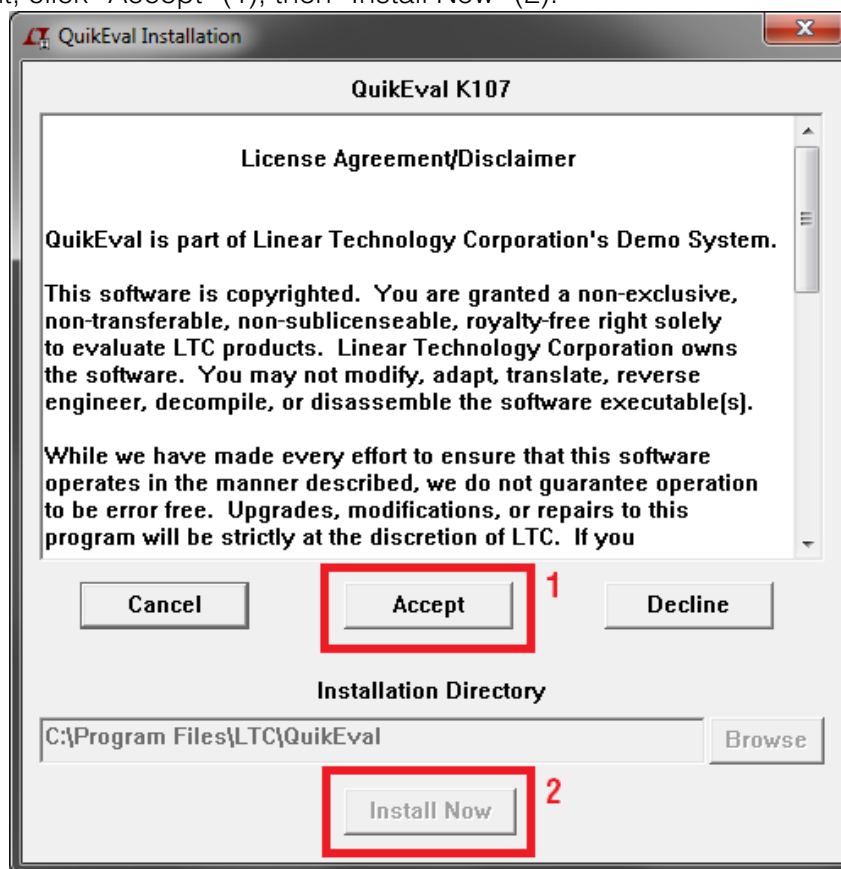

Figure 2: QuikEval Installation prompt window
2. Once the download has completed, launch the .exe file to begin the installation of QuikEval. A prompt window will appear with a License Agreement/Disclaimer message for the QuikEval system (See Figure 2 below). After reading the agreement, click "Accept" (1), then "Install Now" (2).